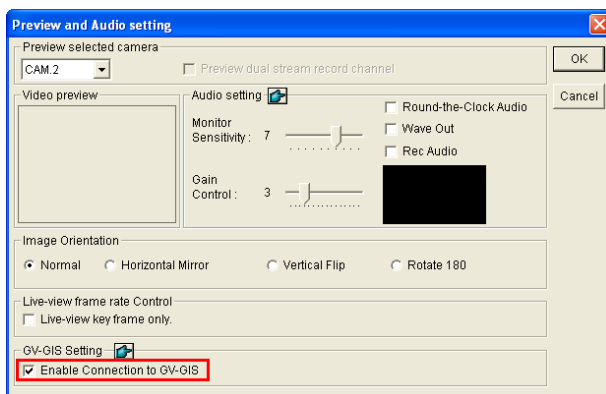

Figure 11-92
- Ensure **Enable Connection to GV-GIS** is enabled for desired IP devices to receive the GPS data from those IP devices (Figure 11-92).